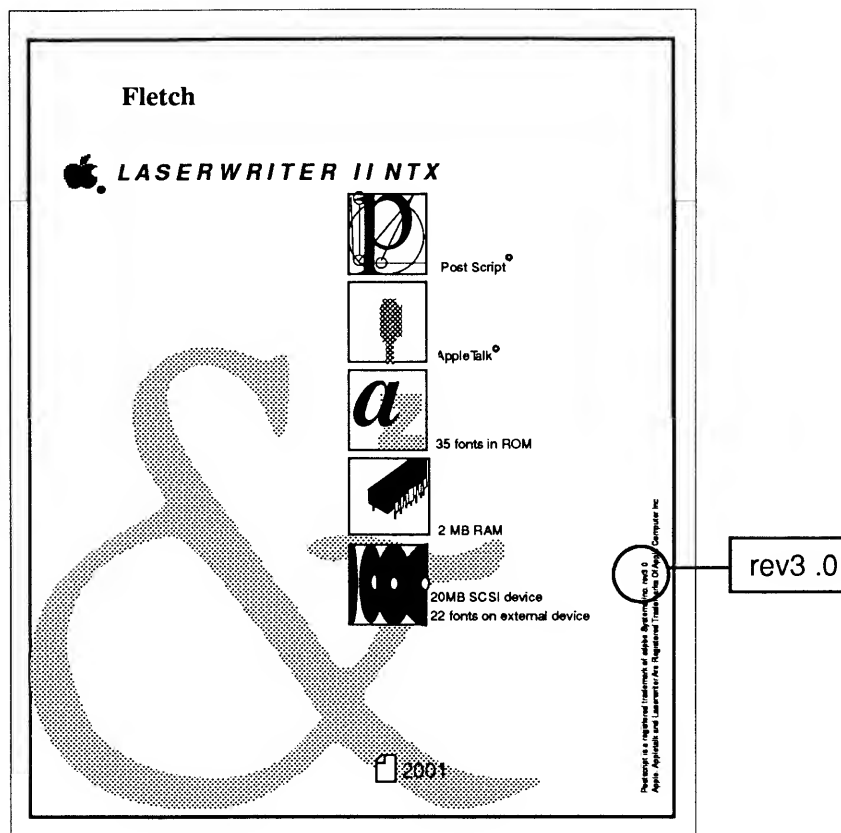

Figure 6-10 Verify ROM Version Number
3. **If the LaserWriter produces a startup test page,** locate the copy-right information on the bottom, right-hand side of the test page (**Figure 6-10**). At the end of the first line of print, you will find one of the following PostScript ROM version numbers: